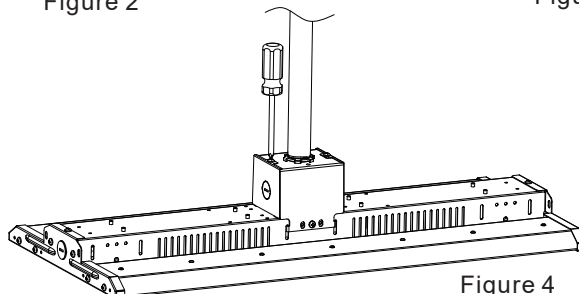

Figure 4
Step 4. Attach bracket sides to complete the installation (Figure 4).